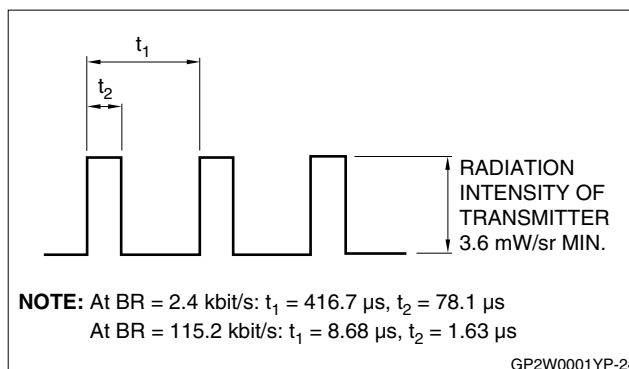
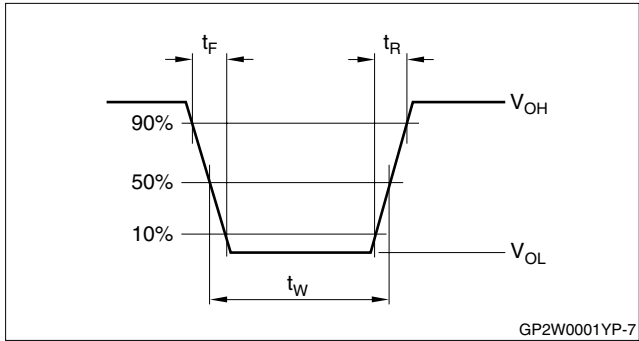
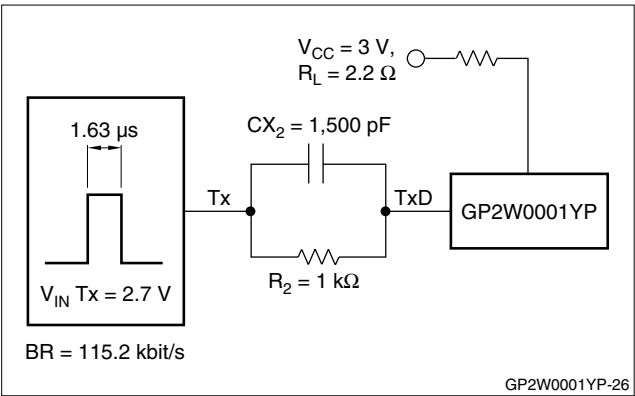

Figure 7. Detector Input Signal Waveform
Figure 8. Output Waveform Specification
Figure 9. Recommended Emitter Circuit
- See Figure 7, Figure 8, and Figure 9